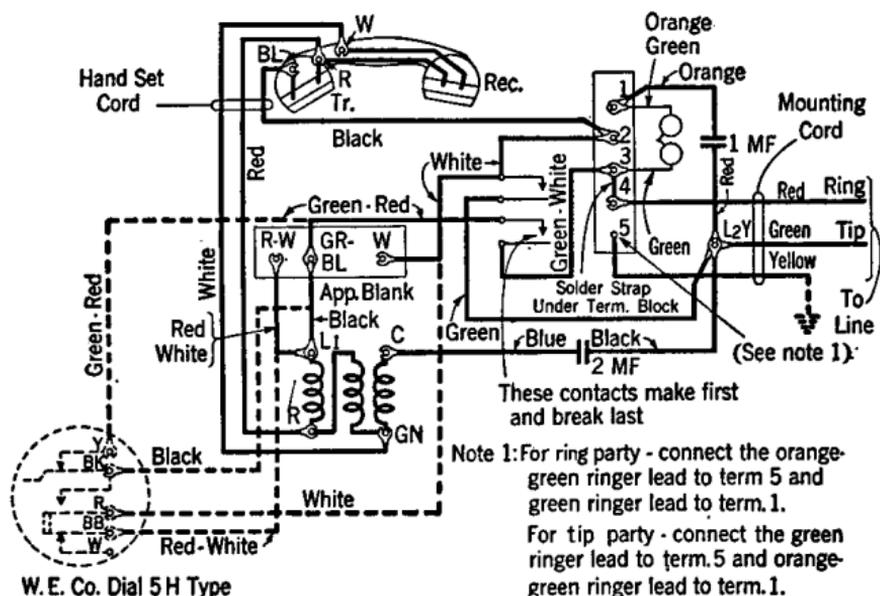

Fig. 1
2.01 These sets are in general similar to the 302 type telephone sets shown in Section C32.502, Figs. 1 and 2 and are used at common battery anti-sidetone stations on non-polarized ringing lines of the following classes of service:
2.02 For individual lines and regular P.B.X. stations a two conductor mounting cord between the connecting block and the set is required. As these sets are furnished with a three conductor cord the additional conductor at the connecting block end should be connected to terminal Y of the 42A connecting block. For grounded ringing lines the third conductor of the mounting cord is used, to bring a ground into the set. (See Fig. 1.)
3.01 The connections for these telephone sets are shown in Fig. 1.
3.02 The diagram in Fig. 1 shows the line and ringer connections for bridged ringing lines. Line and ringer connections for bridged and grounded ringing lines of the classes of service for which the set is used are given in Table 1.
5.04 The plunger and switch contact spring assembly is somewhat similar to Fig. 1, Section C32.575 except the contacts are of the point and disc type instead of the bar type.